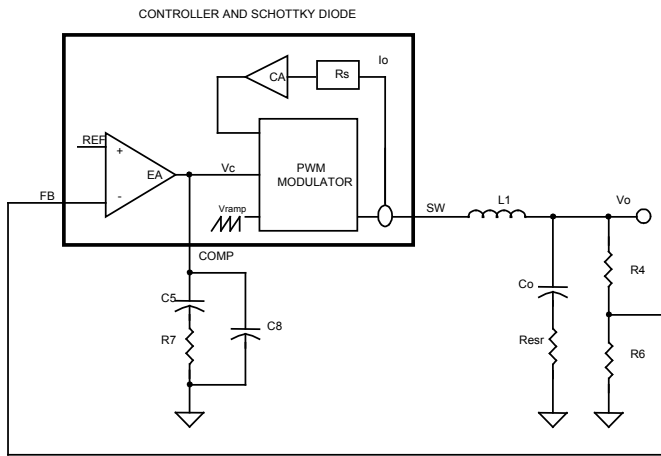

Figure 7. Block diagram of control loops
The goal of compensation is to shape the frequency response of the converter so as to achieve high DC accuracy and fast transient response while maintaining loop stability (see Figure 7).
The block diagram in Figure 7 shows the control loops of a buck converter with the SC4525C. The inner loop (current loop) consists of a current sensing resistor ($R_s=3.53\text{m}\Omega$) and a current amplifier (CA) with gain ($G_{CA}=18.5$). The outer loop (voltage loop) consists of an error amplifier (EA), a PWM modulator, and a LC filter.
For a converter with switching frequency F_{SW} , output inductance L_1 , output capacitance C_o and loading R, the control (V_c) to output (V_o) transfer function in Figure 7 is given by: